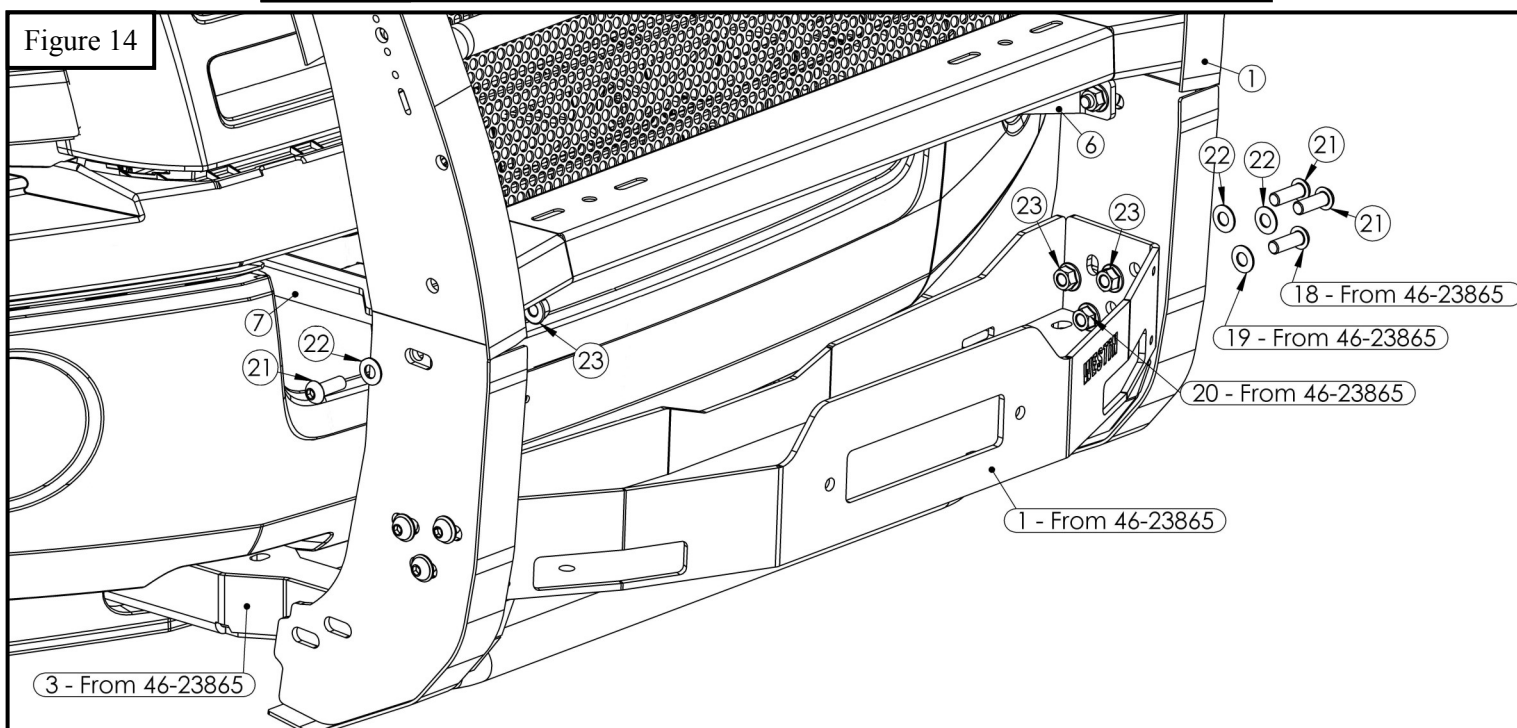

Figure 14
- If using the Push Bumper in conjunction with the 46-23865 Max Winch Tray (Sold Separately) attach the Push Bumper to the Max Winch Tray using the provided M12 hardware (Item 21-23) and the provided M12 hardware in the Max Winch Tray Kit (Items 18-20 in install sheet: 75-462386). See **Figure 14**.